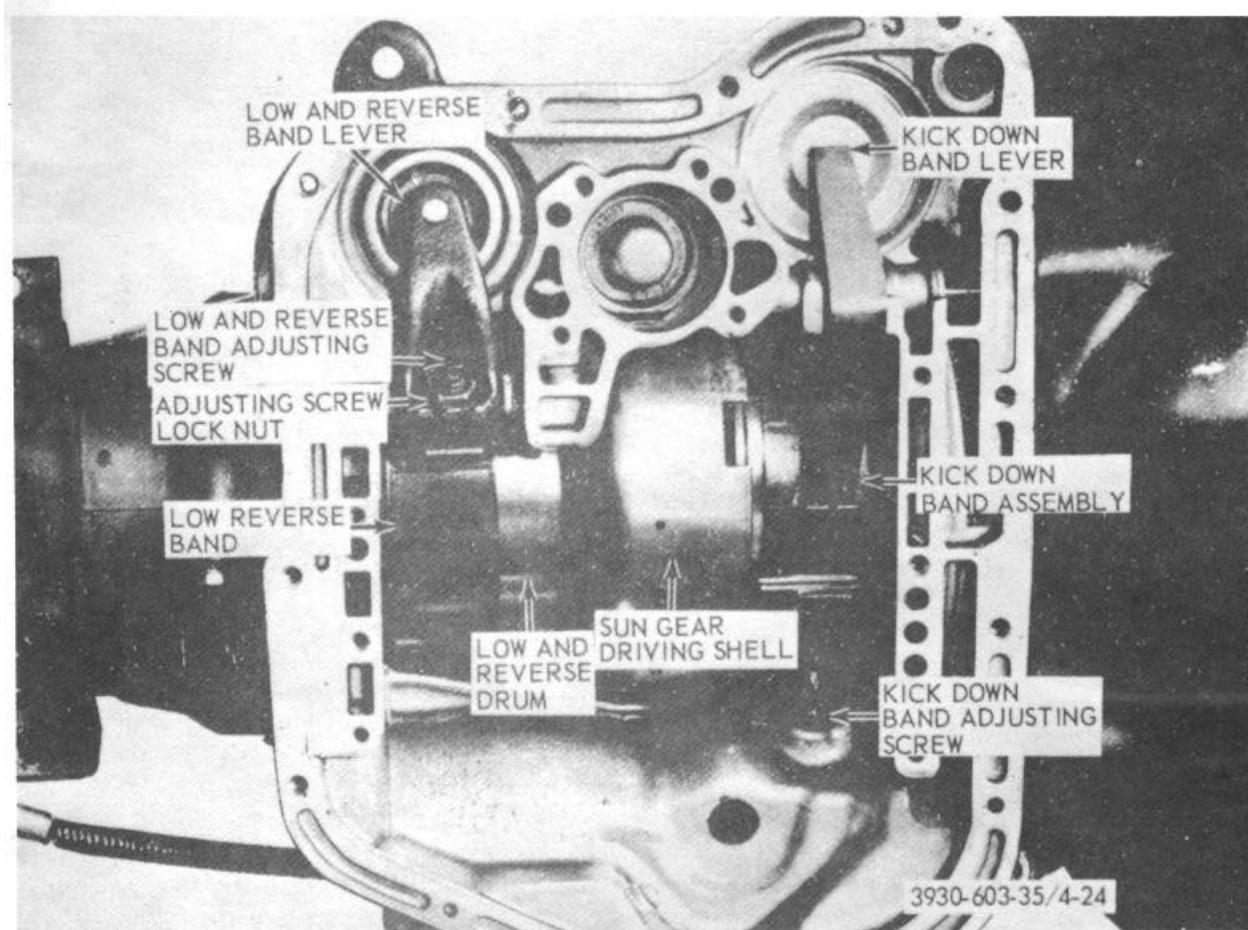

Figure 4-24. Transmission assembly, control valve removed, bottom view.
e. Loosen kickdown band adjustment screw (fig. 4-24). Remove band strut and slide band out of transmission case.